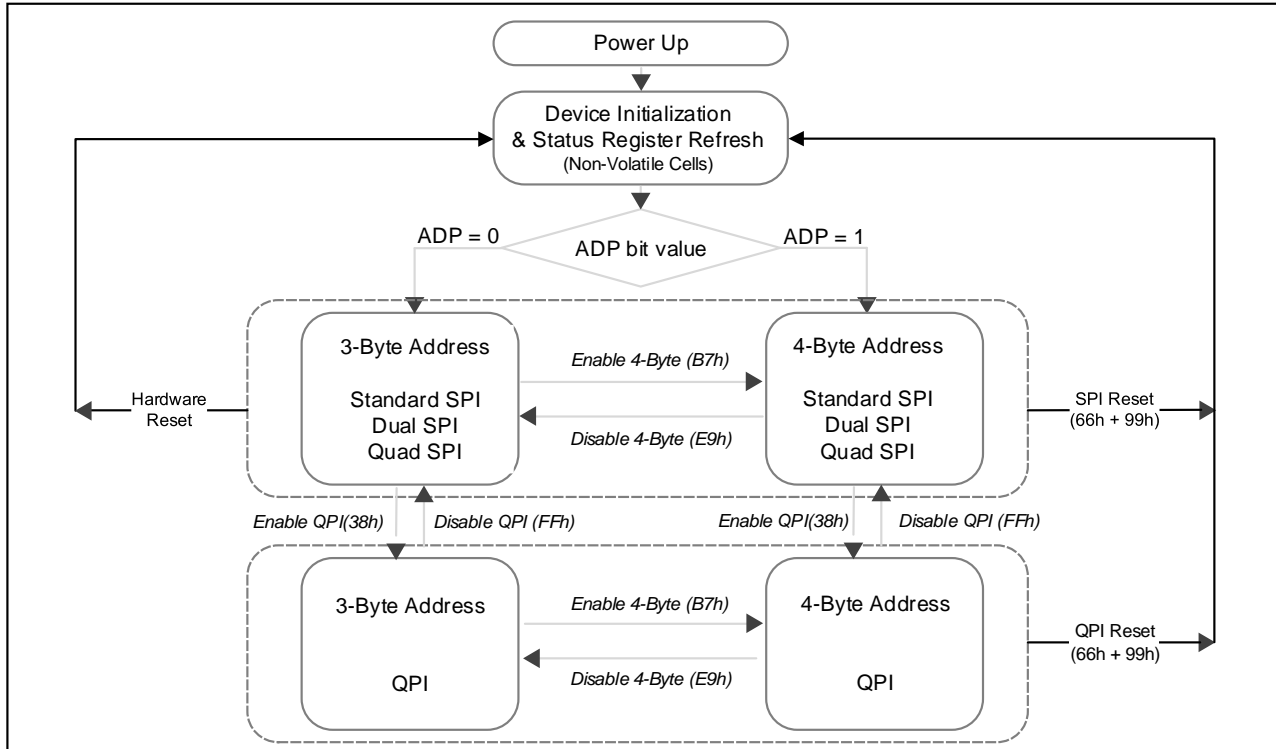

Figure 3. XM25QU256C Serial Flash Memory Operation Diagram
The XM25QU256C supports Quad Peripheral Interface (QPI) operations only when the device is switched from Standard/Dual/Quad SPI mode to QPI mode using the “Enter QPI (38h)” instruction. The typical SPI protocol requires that the byte-long instruction code being shifted into the device only via DI pin in eight serial clocks. The QPI mode utilizes all four IO pins to input the instruction code, thus only two serial clocks are required. This can significantly reduce the SPI instruction overhead and improve system performance in an XIP environment. Standard/Dual/Quad SPI mode and QPI mode are exclusive. Only one mode can be active at any given time. “Enter QPI (38h)” and “Exit QPI (FFh)” instructions are used to switch between these two modes. Upon power-up or after a software reset using “Reset (99h)” instruction, the default state of the device is Standard/Dual/Quad SPI mode. To enable QPI mode, the non-volatile Quad Enable bit (QE) in Status Register-2 is required to be set. When using QPI instructions, the DI and DO pins become bidirectional IO0 and IO1, and the /WP and /HOLD pins become IO2 and IO3 respectively. See Figure 3 for the device operation modes.